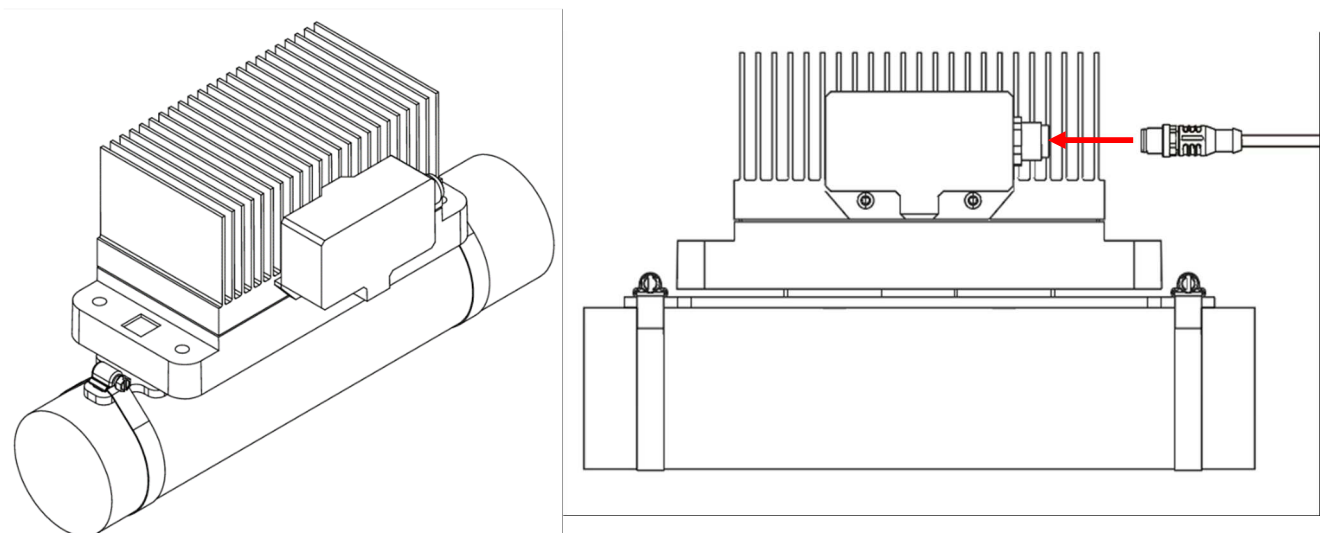

Figure 14.- Power supply (InduEye® TG Duo module– Tube mounting) connection
- Insert and screw the cable connection male to the InduEye® TG Duo output power supply connector, as can be shown in Figure 14.